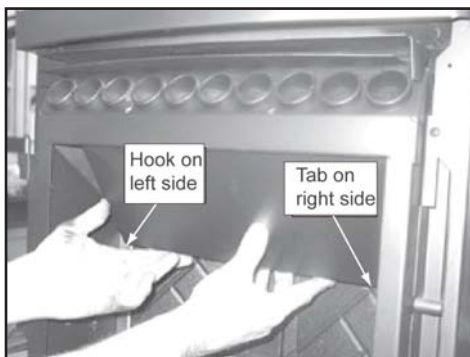

Figure 39.1
2. The top baffle has a hook on the bottom left side that rests on the top lip of the cast brick. There is a tab on the bottom right side that hooks into the side bracket. Remove the top baffle by first pulling the baffle forward until back edge drops down. Then slide baffle back and down until the front edge clears the shelf that it had been resting on. **Figure 39.1.**
3. Lift slightly and pull the right edge of the brick forward until it stops and then drops down into both top and bottom notches of right bracket and locks into place. **Figures 39.1 and 39.2.**